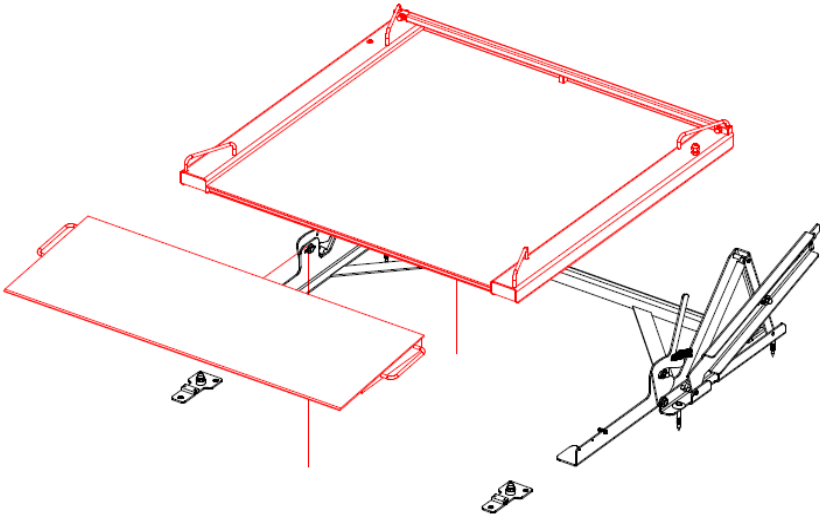

Fig. 12. Placing the platform and the ramp on the mounting feet's pins
7. Place the platform; match the load cells to the pins. Place the ramp, match it to the mounting feet (Figure 12).